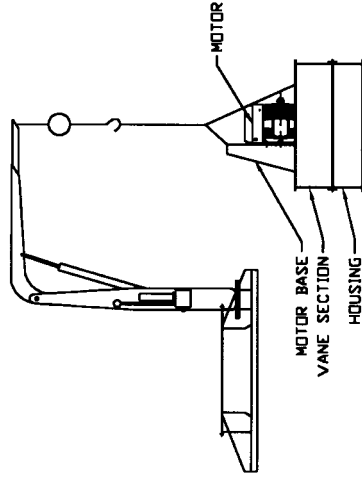

FIGURE 5
- 9) Slowly raise the fan with the hoist. The fan only needs to be raised 2". Rotate the fan away from the plenum and lower it. (Figure 5)
- 8) Slowly raise the fan with the hoist. The fan only needs to be raised 2". Rotate the fan away from the plenum and lower it. (Figure 5).